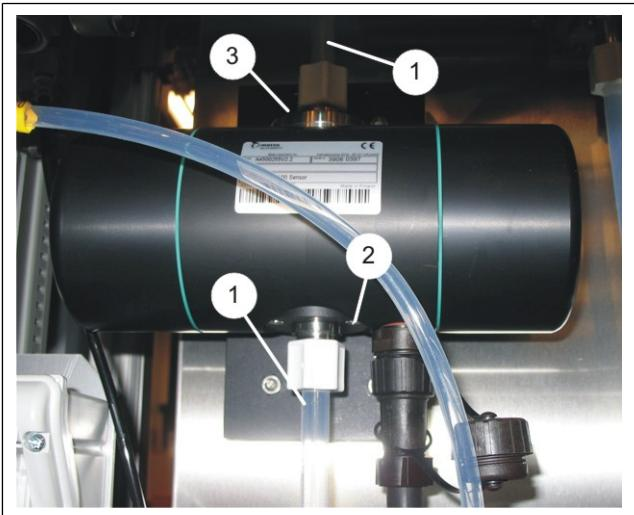

Fig. 25. LC100 consistency sensor, replacing the measurement cell.
2. Detach the sample tube from its connector (Fig. 25, part 1), and unscrew the connectors from the sensor.